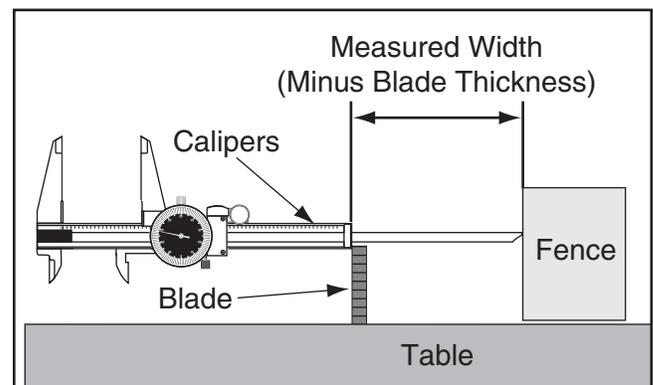

Figure 26. Measuring cutting width with calipers.
6. Place the bottom of the calipers on one of the carbide teeth and extend the caliper measurement bar to touch the rip fence, as shown in **Figure 26**, then lock the calipers in place and read the measurement.